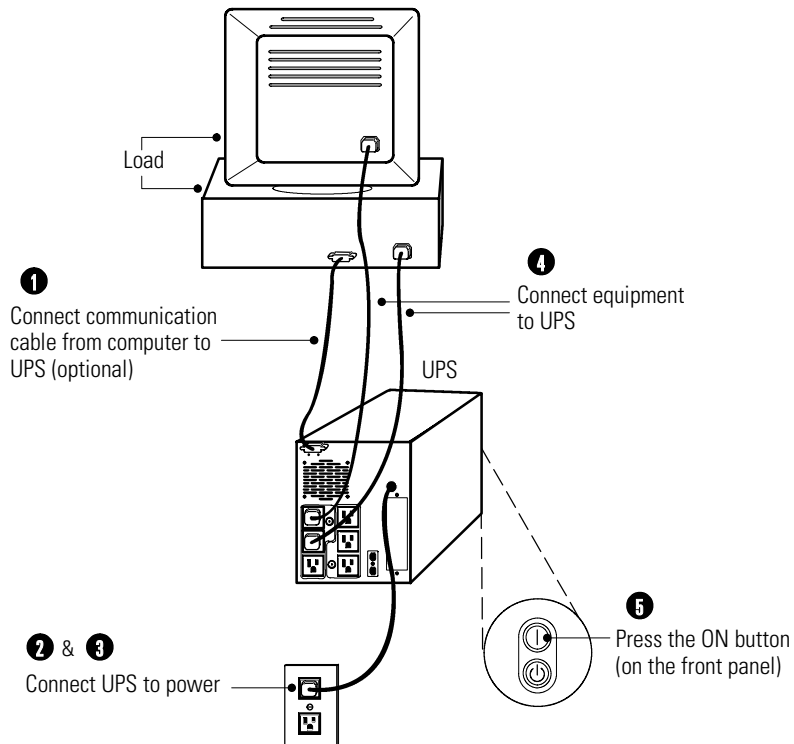

Figure 2. Typical UPS Installation (120V Model Shown)
The following steps explain how to install the UPS. Figure 2 shows a typical installation only. See “UPS Rear Panels” on page 6 for the rear panel of each model.
5. Start the UPS by pressing the On | button as shown in Figure 2. The Power On indicator illuminates indicating that power is available from the UPS output receptacles.